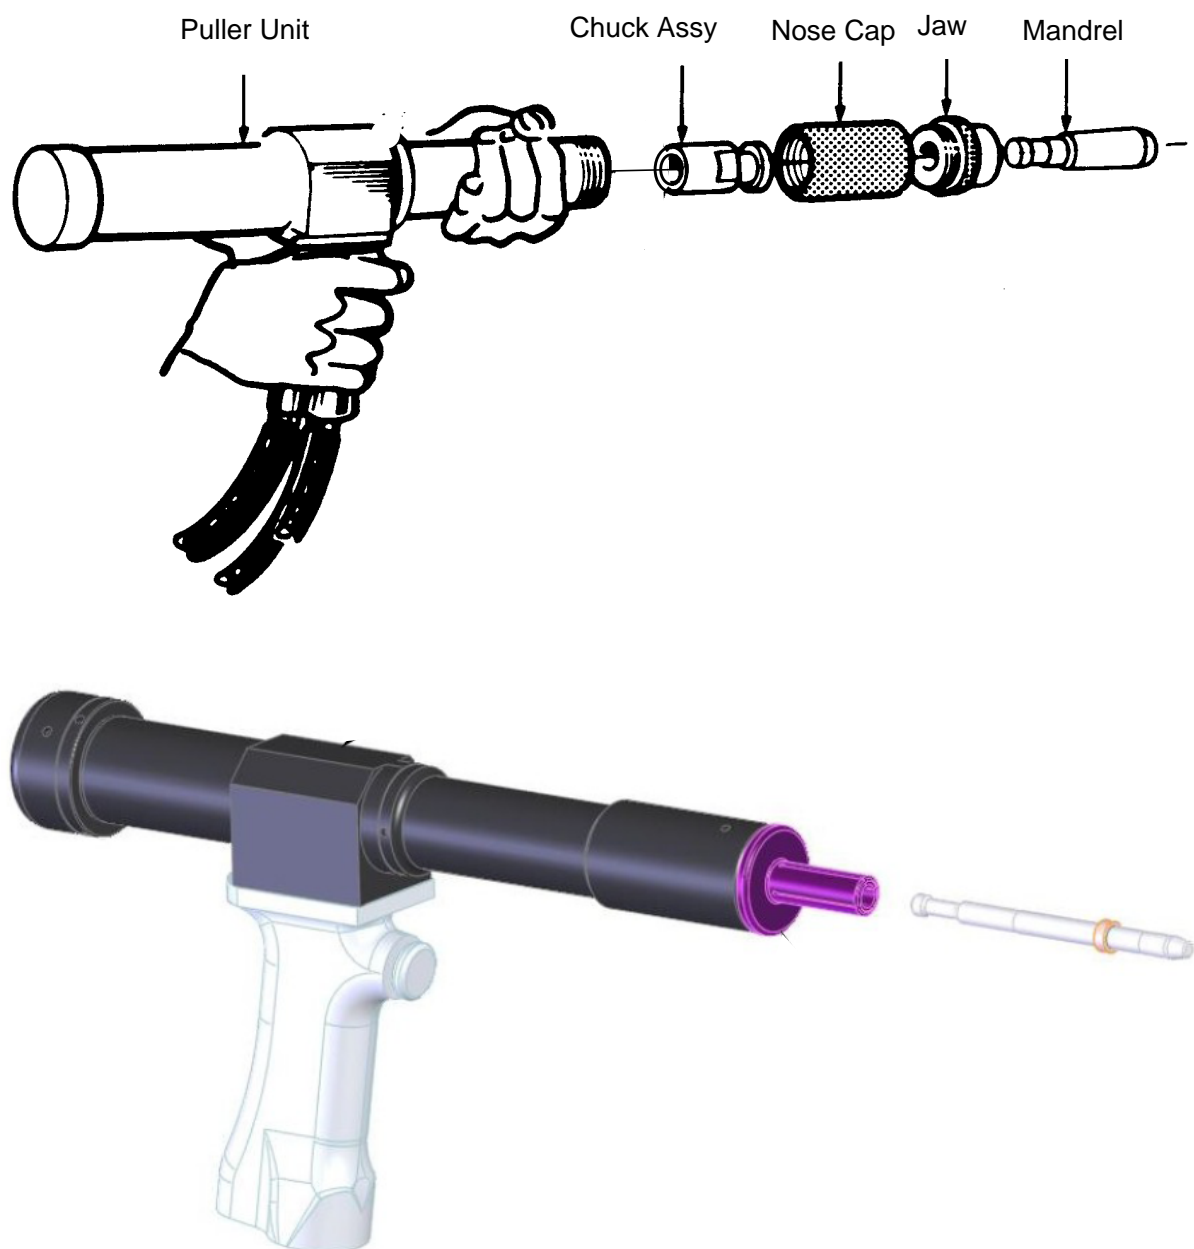

Figure 3 - Assembly of ForceMate Tooling
5.3.1 Prepare tooling as follows (see Figure 3):